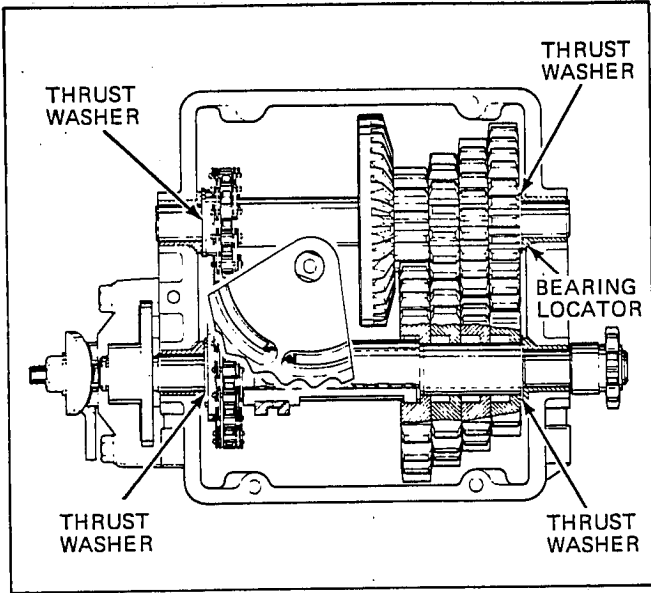

Figure 2-33
4. Install shaft assemblies into case utilizing piloting locators on bearings to properly align notches in case. See Figure 2-33. CAUTION: Be sure bearing locators are seated in transmission case.